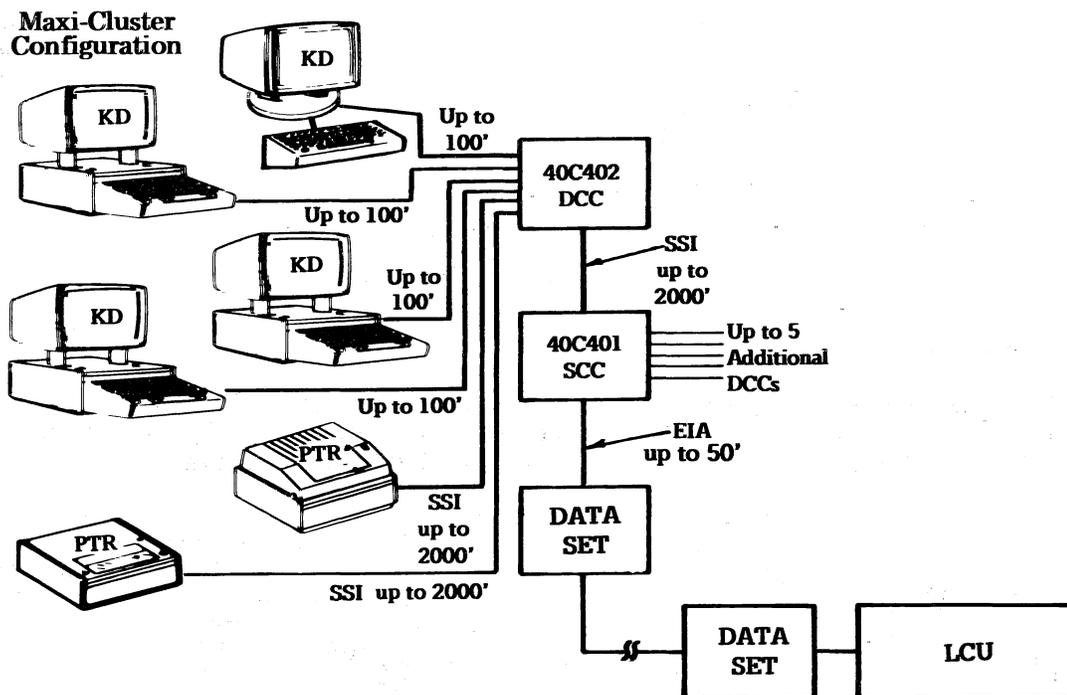

Fig. 1—Maxi-Cluster Configuration
2.01 A Maxi-Cluster Configuration, shown in Fig. 1, consists of: One Station Cluster Controller (SCC), one to six Device Cluster Controllers (DCC), and one to thirty-six devices (KDs and printers). Each DCC controls one to six devices with a minimum of one KD per DCC.